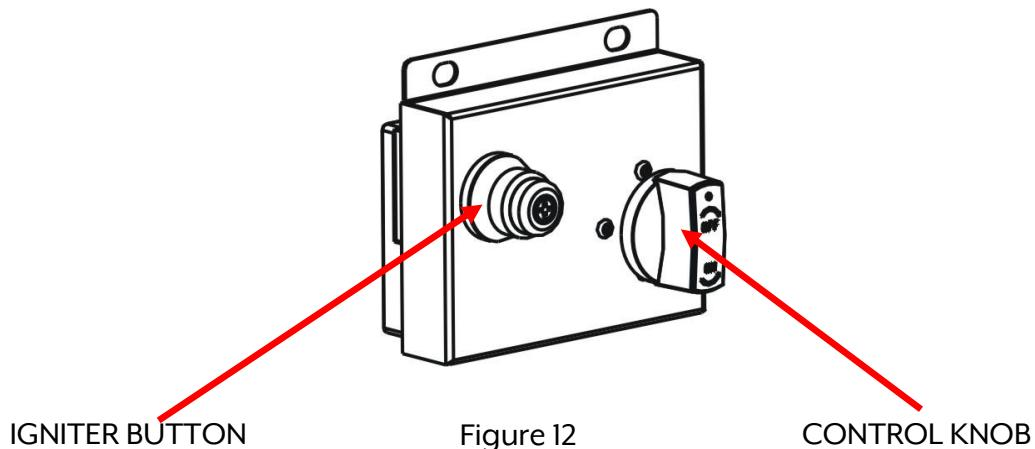

Figure 12
4. Adjust flame to desired flame with the control knob. See Figure 12.